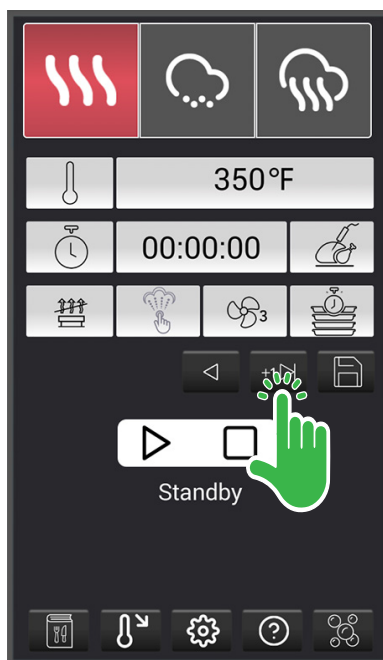

Fig. 30
- If additional cooking mode stages are desired, touch the right stage navigation button (Fig. 30). The number in the button will increase.